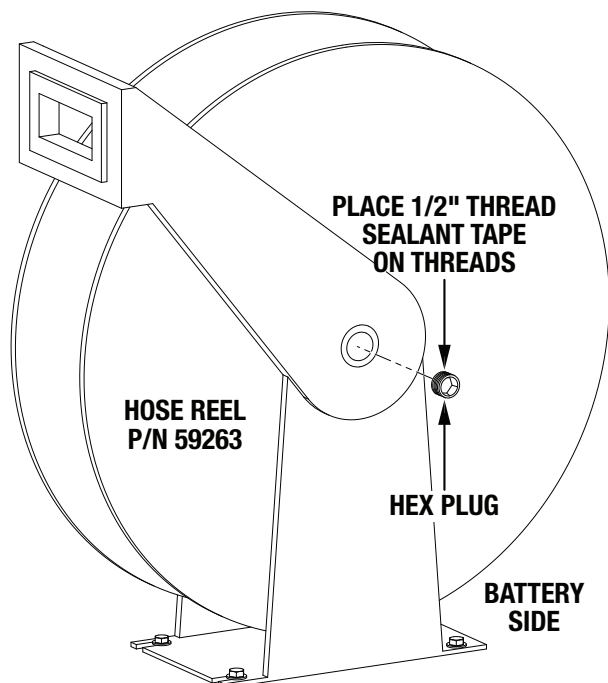

Figure 30. Hex Plug Installation (Battery Side)
12. Place 1/2" thread sealant tape onto the threads of the hex plug (Figure 30). Insert the hex plug into the opening on the opposite side of the **battery-side** hose reel (P/N 59263), and tighten it securely.